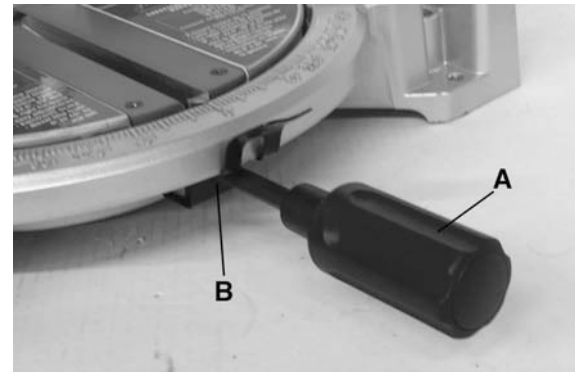

FIGURE 4
1. Assemble the table lock knob (A) Fig.4 to the front support bracket (B).